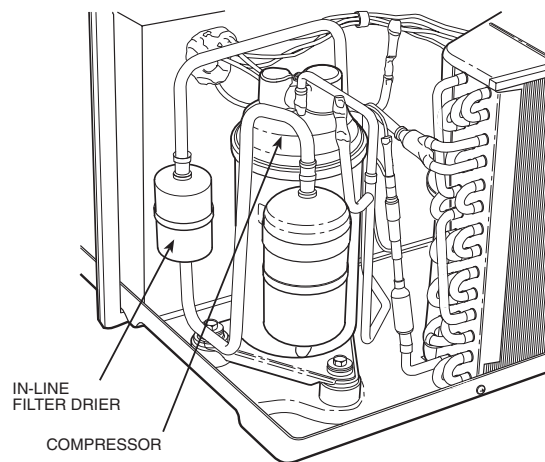

FIGURE 33A — IN-LINE FILTER DRIER — GENERAL INSTALLATION LOCATION FOR HEAT/COOL UNIT
10. **For Heat/Cool Units:** Use an in-line filter drier (P/N P504-80845). The filter drier can be installed in any location in suction line. See Figure 33A for general installation location.